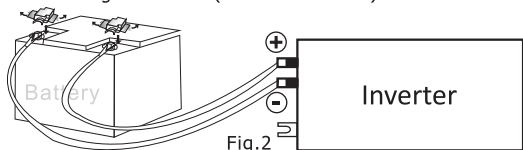

Fig.2
Step4: Install a DC Breaker in a positive line. The rating of the DC Breaker must be according to the inverters battery current(75Amp).Keep the DC breaker off(see Fig.2).
1) Single battery connection(Refer to Fig.2) When using a single battery, its voltage must be equal to the Nominal DC Voltage of the unit(see below Table 1).